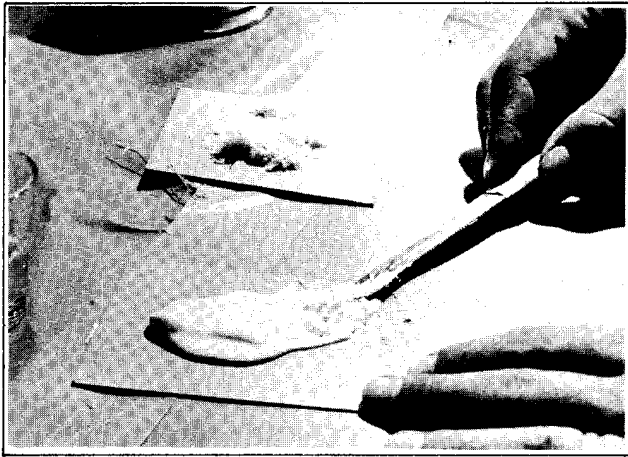

Figure 2-49. Mixing Gel Coat Glass Fibers
3. A small amount of gel coat, the same color as the finish should be placed in a small can lid or on a piece of cardboard. Use just enough to fill the damaged area. If damage has penetrated through to fiberglass material, an equal amount of fibers, which can be taken from glass mat and shredded into small fibers, should be mixed with the gel coat - using a putty knife or flat stick. Add three drops of catalyst per teaspoon of gel coat using an eye dropper. Be sure to mix the catalyst thoroughly for maximum working time. Maximum working time (pot life) will be about 15 to 20 minutes at which time it begins to "gel." See Figure 2-49.